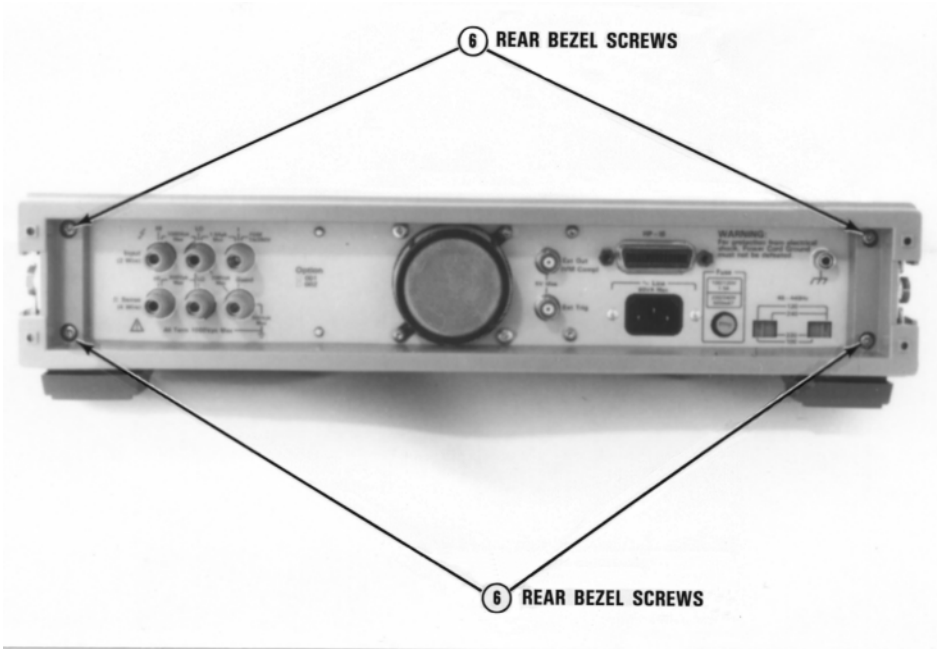

Figure C-4 3458A rear view
- 8 Refer to **Figure C-4**. Turn the instrument so its back faces you.
- 5 Refer to Figure C-4. Turn the instrument so its back faces you.